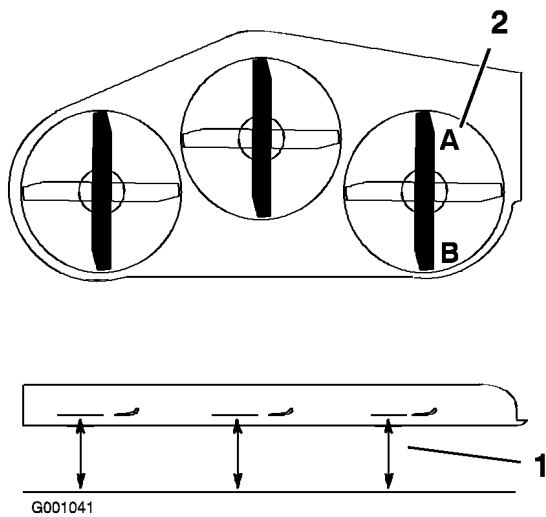

Figure 60
2. Position one blade front-to-rear (Figure 60). Measure at **A** and **B** locations (Figure 60) from a level surface to the cutting edge of the blade tips (Figure 60).
4. Position the blades front-to-rear. Measure at **C** and **D** locations (Figure 60) from a level surface to the cutting edge of the blades.